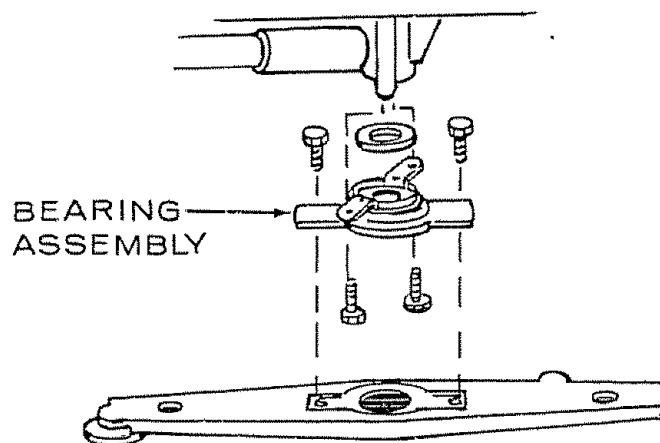

FIGURE 18
- 1 From below, in tub, remove two screws which hold spray arm and bearing assembly to plastic distributor (See Figure 18)